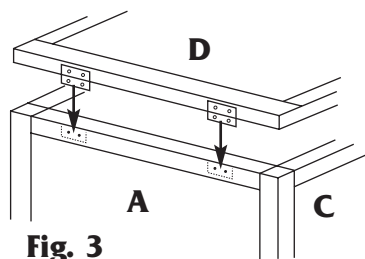

Fig. 3
5. Place the lid (D) in position so that the hinges are at the back and are facing downwards. Line up the lid with the frame sides and hold firmly whilst attaching the hinges to the back panel (A) using screws (I). (**See Fig 3**).